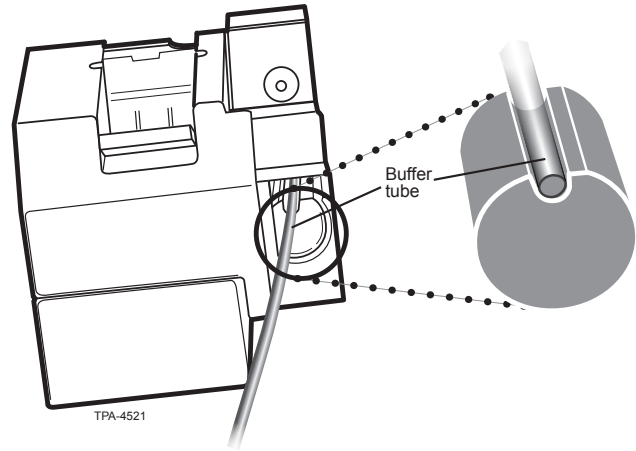

Figure 21
- b. Place the required buffer tube in the holder's slot, lining up the buffer tube's starting point mark with the blade contact point (Figure 21).